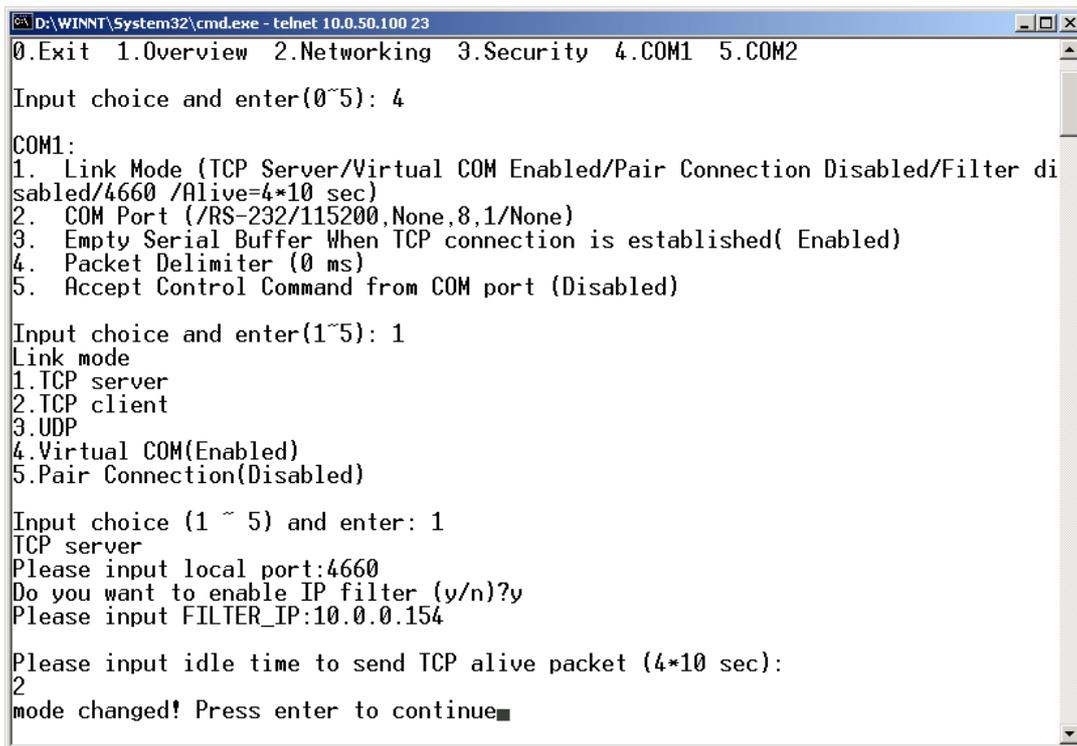

Fig. 15. Link Mode-TCP server setup
- ➔ Enter **2** on “**Input choice(1~5) and enter :**”(Fig. 15)